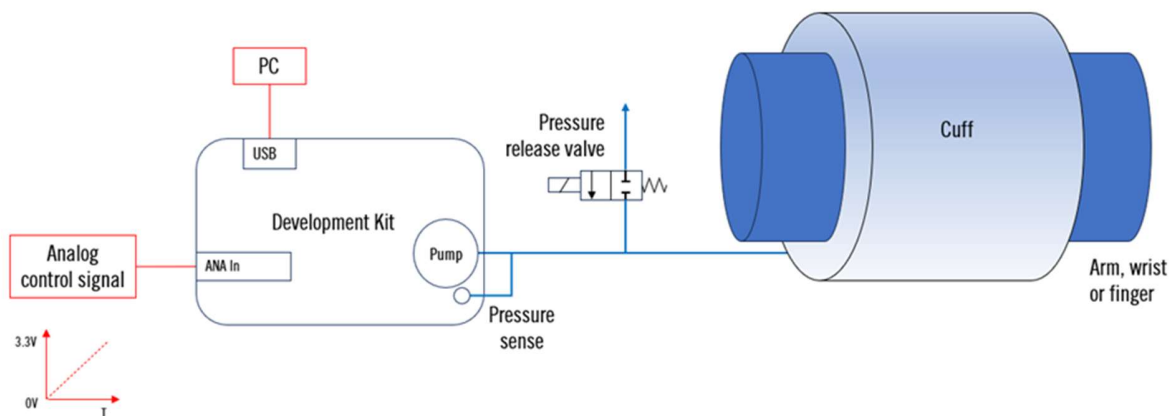

Figure 3 – A basic prototype system using the Piezoelectric Disc Pump Development Kit.
Figure 3 shows a basic test laboratory set-up, using the Disc Pump Development Kit, including:
- Connect equipment as shown in Figure 3.